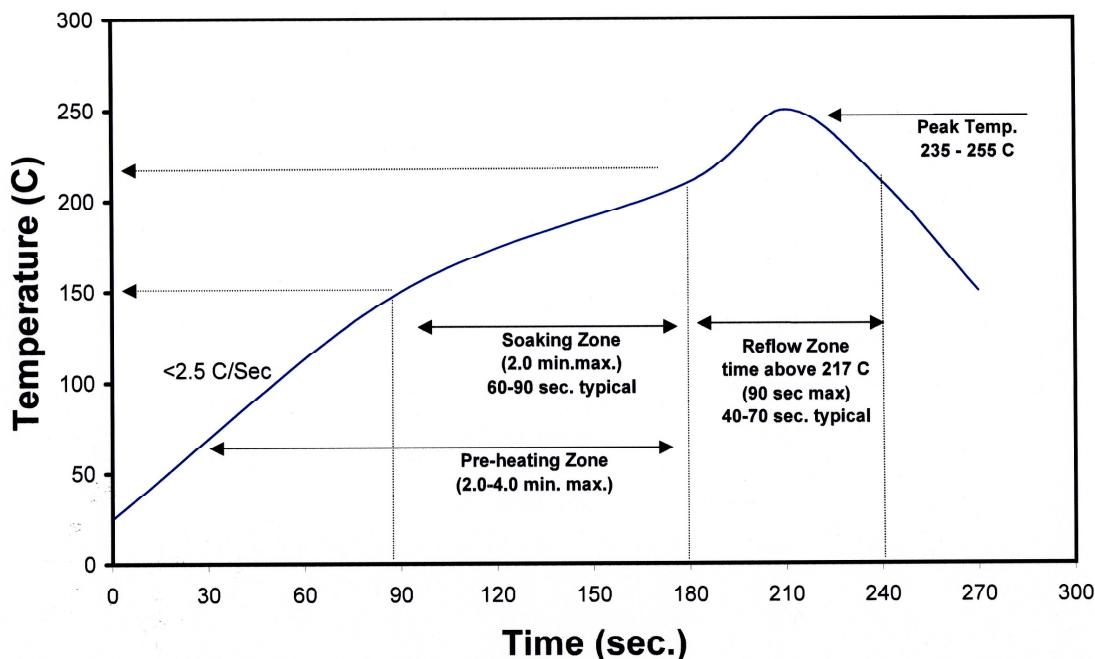

Figure 5: Reflow soldering profile for lead free soldering.
4. Solder conditions per JEDEC 020D. See Reflow Soldering Profile Figure 5.